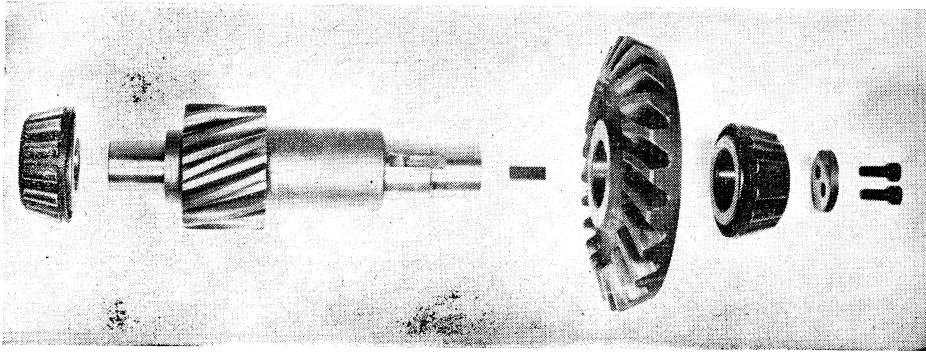

Fig. 61 Layout of cross shaft assembly
1. Insert key and start shaft into bevel gear in line with keyway or splines, Fig. 61.